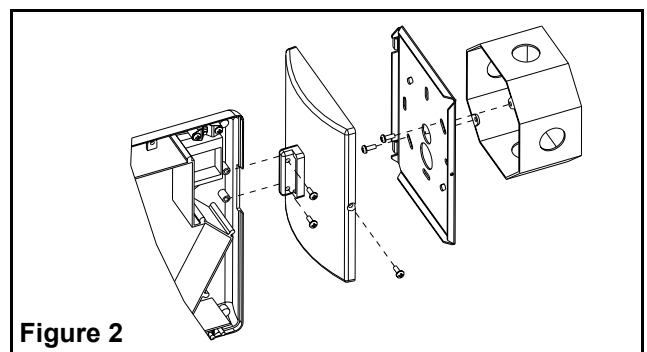

Figure 2
- a. Separate the canopy plate from the canopy assembly and retain the securement screw (see fig. 2).
- f. Secure the canopy to the exit housing by guiding flange on the canopy into the rectangular hole in the side (or top) of the housing. Use the canopy screws to fasten the canopy to the housing (see fig. 2).
- h. Mount the exit/canopy assembly to the canopy mounting plate by guiding the two tabs on the canopy plate into the slots in canopy. Use the securement screw to fasten the canopy to the mounting plate (see fig. 2). Go to step 3.